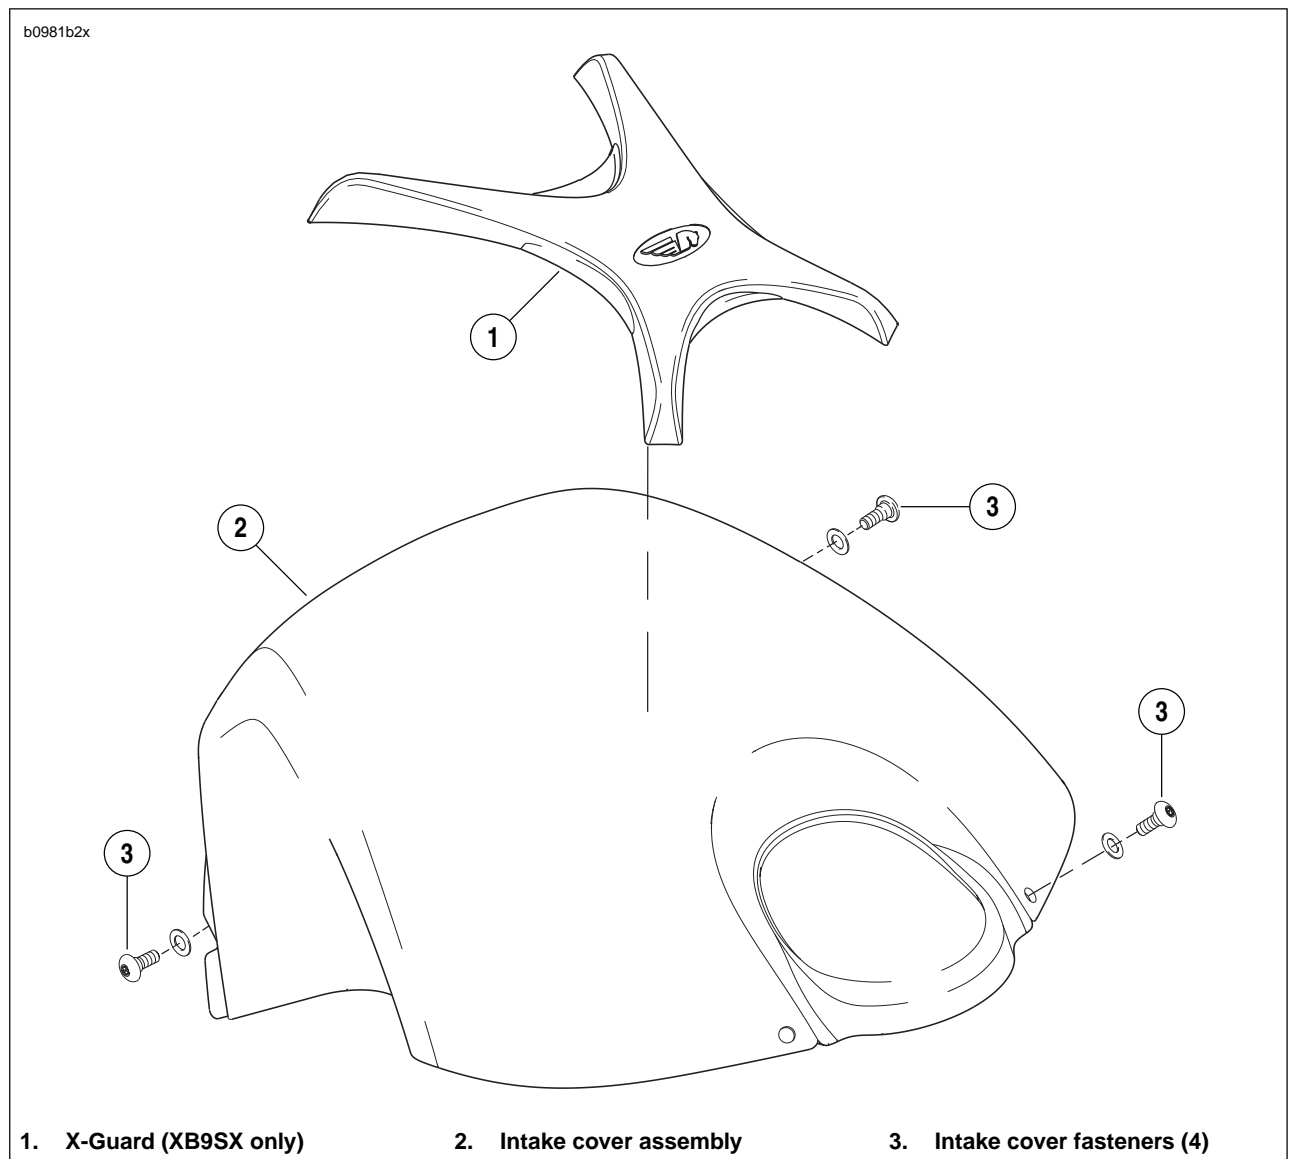

Figure 2-119. Intake Cover Assembly
2. See Figure 2-119. Remove fasteners and nylon washers (2).
3. Remove intake cover assembly (1).
2. See Figure 2-119. Start the front two fasteners (2) with nylon washers.
3. Install the remaining fasteners and nylon washers (2). Tighten all fasteners to 12-36 in-lbs (1-4 Nm).